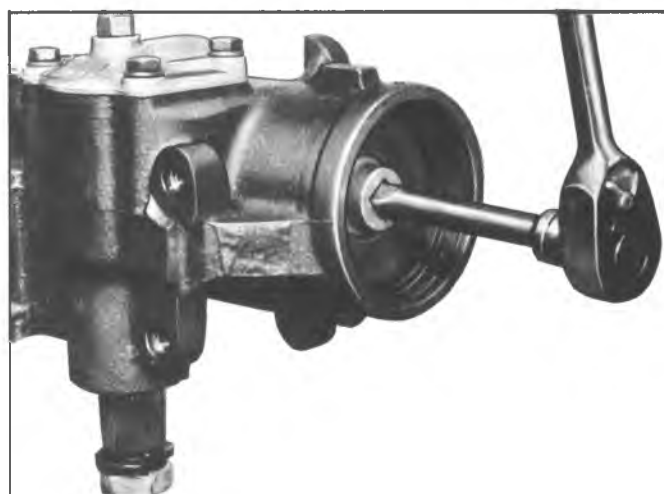

Fig. 33--Removing End Plug
3. Remove the rack-piston end plug as shown in Figure 33.